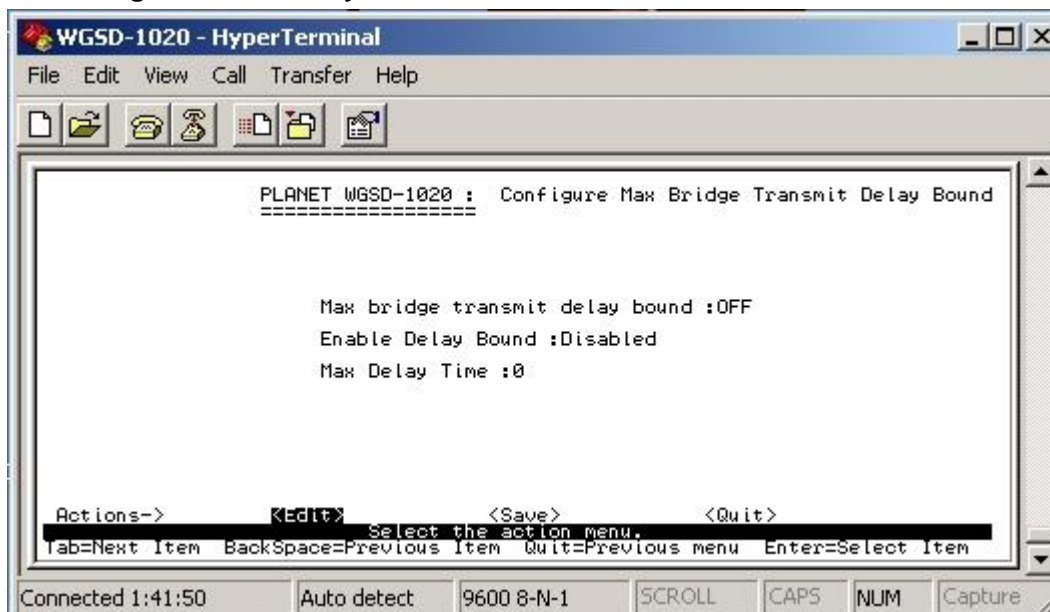

Figure 4-40 Max Bridge transmit delay bound screen
2. After setup completed, press” **Ctrl-A**” to “**Action menu**” and choose “**save**” to save the current configure. The screen in Figure 4-40 appears.